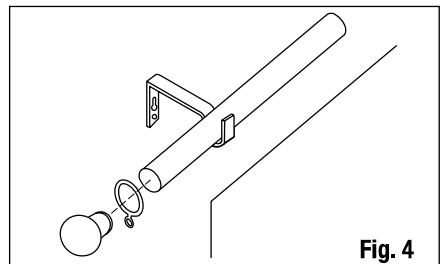

Fig. 4
- Remember to position a ring between the brackets and the finial (Fig. 4).